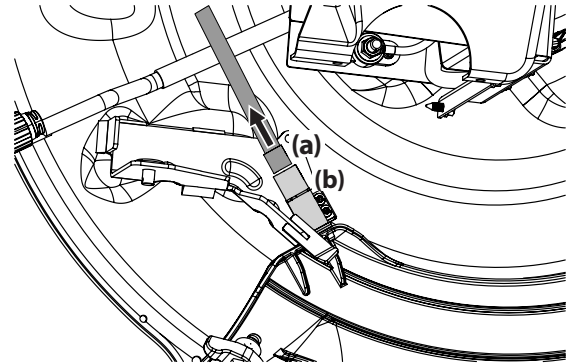

Figure 20
6. Unplug the wire connector (a) from the safety switch (b) at the rear of the chute opening. See Figure 20.
3. Plug the wire connector (a) into the safety switch (b) at the rear of the chute opening. See Figure 20.
**Note:** Be sure to securely reconnect the wire connector to the safety switch in Figure 20, you tractor will not start or operate without the safety switch properly connected.